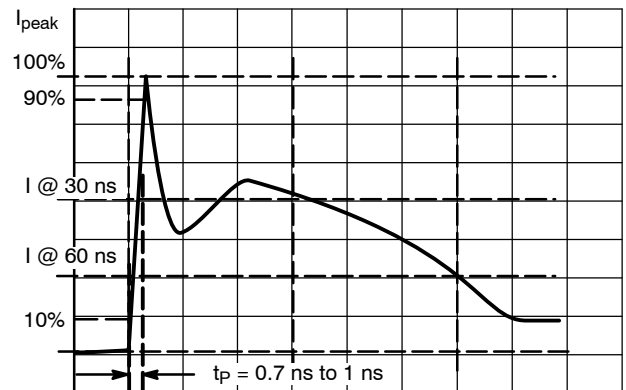

Figure 3. IEC61000-4-2 Spec
4. For test procedure see Figures 3 and 4